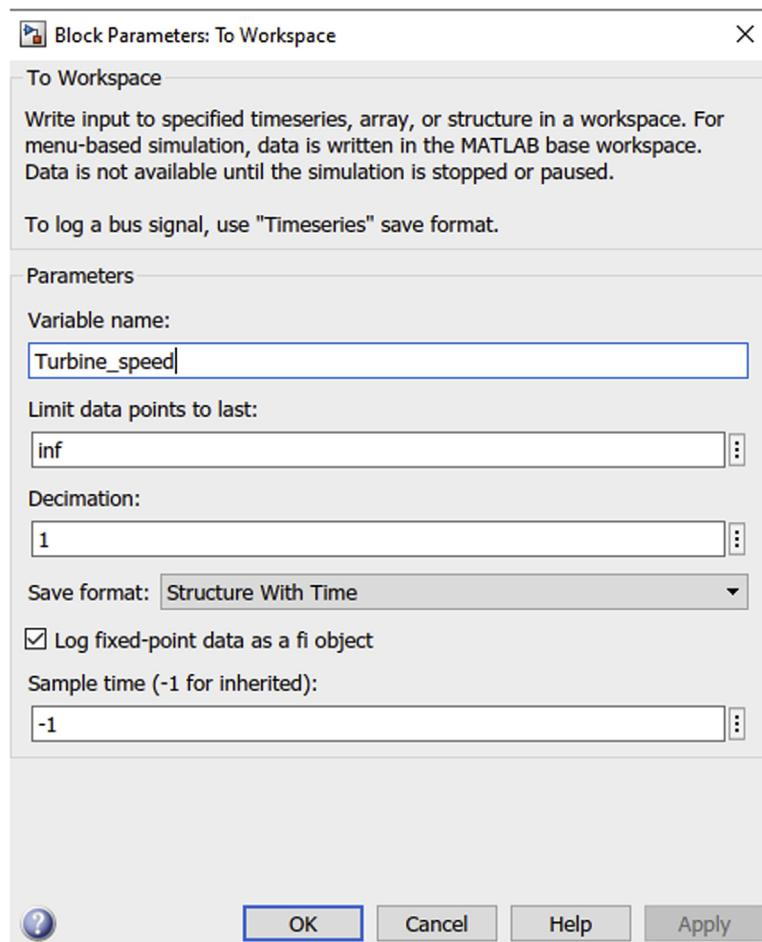
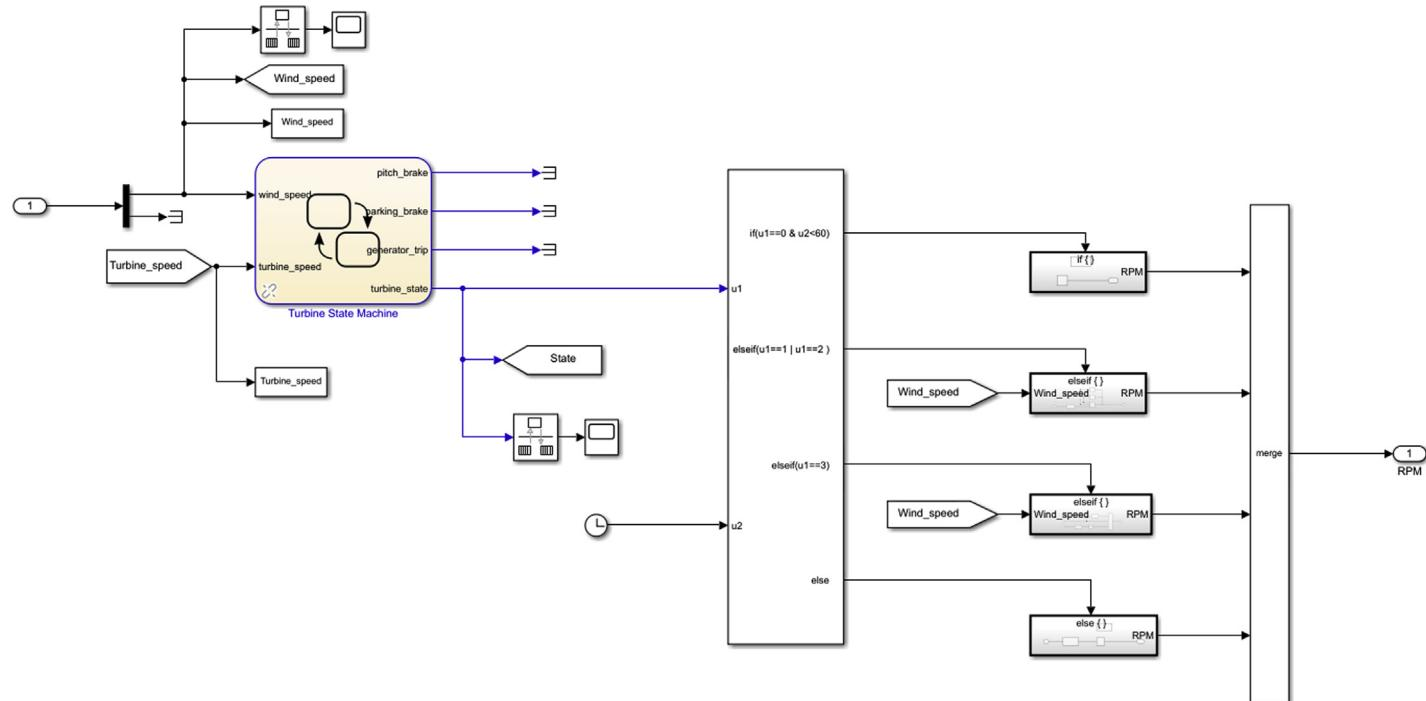

Figure 10.35 Save format for ToWorkspace variables.
Figure 10.36 Completed Chapter_10/Motor_Control/Motor_Speed_Reference_Generator/Main_Controller.
16. Place a **Goto** flag named state for the turbine_state output of the stateflow logic in Chapter_10/Motor_Control/Motor_Speed_Sensor and name it State. Make sure tag visibility is global as this will be used outside this subsystem later on. In addition to this, add a **Rate Transition** and a **Scope** block for the wind_speed input and turbine_state output. Also add a **ToWorkspace** block connected to wind_speed and Turbine_speed inputs. Name them as Wind_speed and Turbine_speed, respectively. Make sure the save format for the **ToWorkspace** block is Structure with Time as shown in Fig. 10.35. Completed section for Chapter_10/Motor_Control/Motor_Speed_Reference_Generator/Main_Controller is shown in Fig. 10.36.